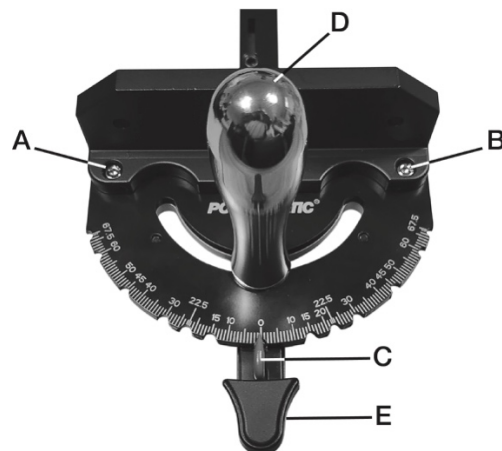

Figure 32C
2. Loosen screws A and B as shown in Figure 32C.
Adjusting Miter Gauge Angle for Operations (model PM1500T, refer to figure 32C):